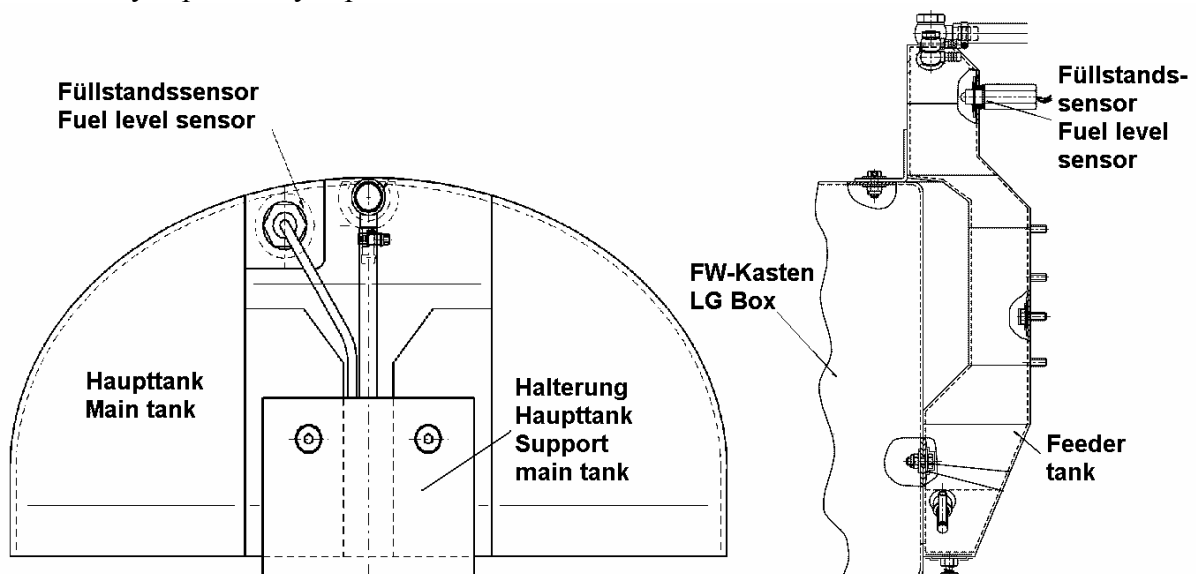

Figure 2
4. Remove the bolts from the main tank support and disengage the main tank from its rear support, disconnect and unscrew the optical sensor, see figure 2 left.
8. Disconnect and remove the optical sensor from the feeder tank, see figure 2 right.